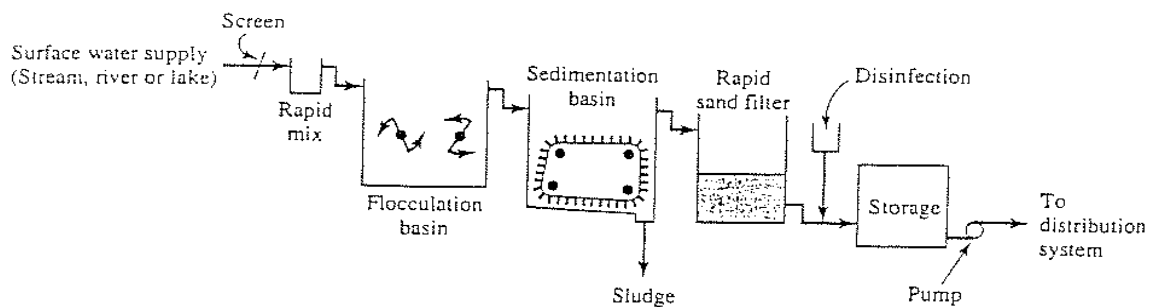

Figure10-2 Flow diagram of a Surface water plant
- 2) Coagulation plants (Figure 10-2) (used to treat surface water).